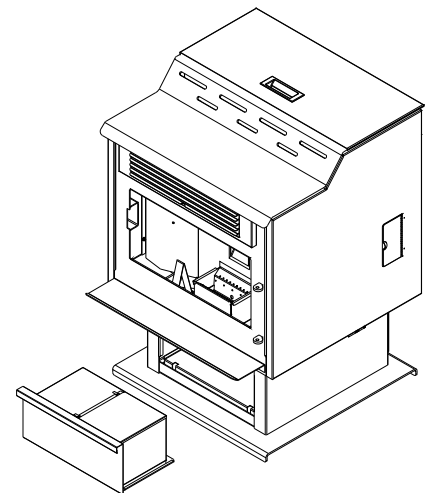

Figure 24
- f. Periodically remove and empty the ash drawer (see Figure 24) below the ash lip. Dispose of ashes properly.